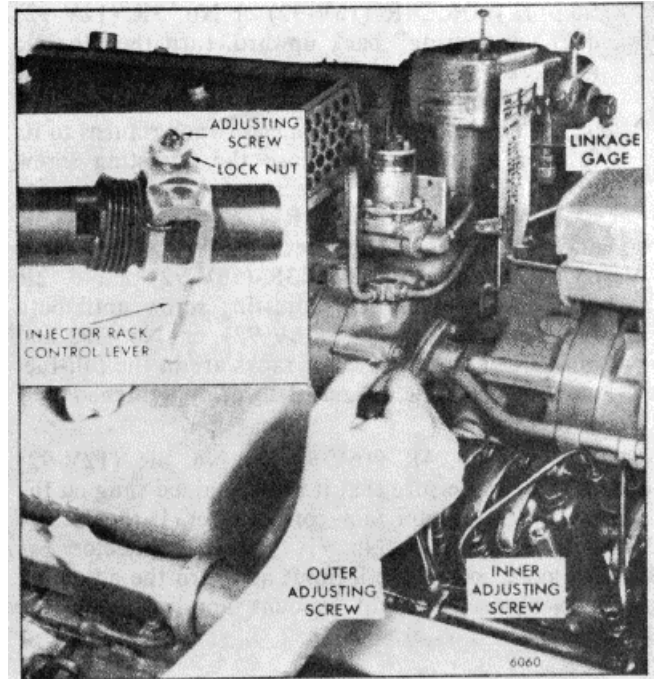

Fig. 14. - Positioning No. 4R Injector Rack Control Lever
6. Adjust the No. 4R (16V-92) or No. 3R (12V-92) injector rack by tightening the adjusting screw until the injector rack clevis is observed to roll up or an increase in effort to turn the screwdriver is noted (Fig. 14). Tighten the screw approximately 1/8 of a turn more and lock securely with the adjusting screw locknut. This will place the No. 4R (16V-92) or No. 3R (12V-92) injector rack in the full-fuel position.